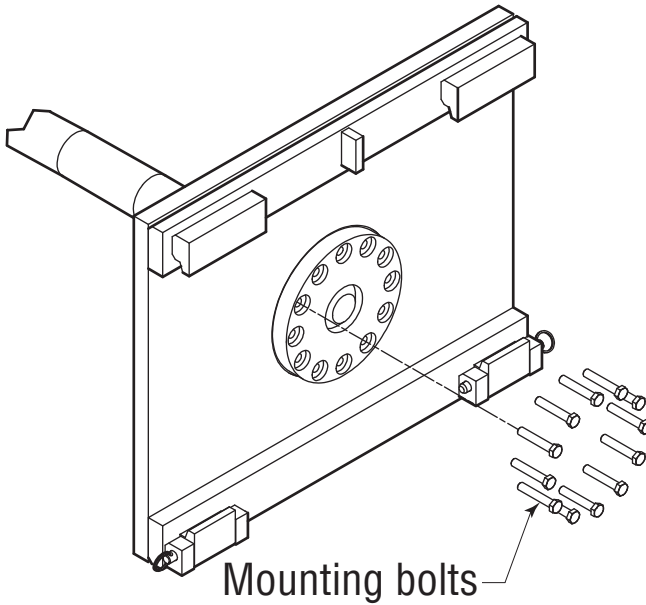

Figure 5-5, Bolt Torque Pattern
6. Use a line-up bar to align the ram mounting bolt holes. Apply Loctite 242 (Blue) to the mounting bolts. Thread the mounting bolts into the ram body and torque to 155 ft-lbs. Refer to the parts manual for bolt torque pattern. (Figure 5-5)